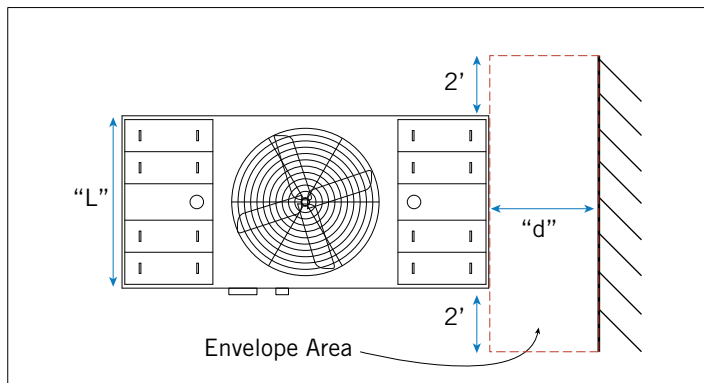

Figure 2a. Plan View of a Unit Adjacent to Wall
2. **Air Inlet Requirements:** Should it be necessary to install a unit with the air intake facing a wall, provide at least distance “d” between the air intake and the wall, as illustrated in **Figures 2a** and **2b**.
The envelope area as illustrated on **Figures 2a** and **2b** on **Page 3** is $[(L + 2 + 2) * d] + 2(H+h) * d$], where: